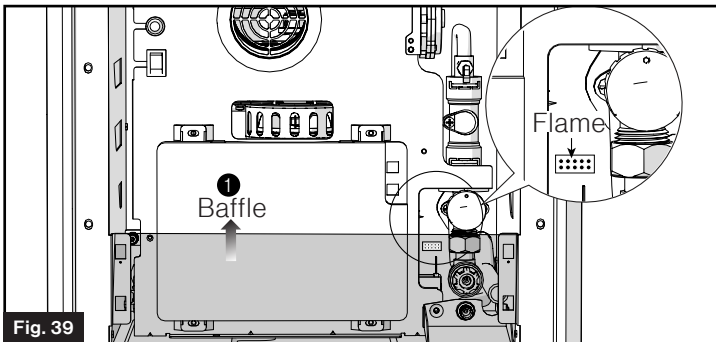

Fig. 39
11. Turn on the power to the water heater and open a hot water faucet to inspect the flame of the burner. The flame should be of the normal bluish appearance that indicates proper combustion. This can be accomplished by removing the water heater door and baffle to observe the flames by looking at the burner under the edge of the heat exchanger. (Fig. 39)